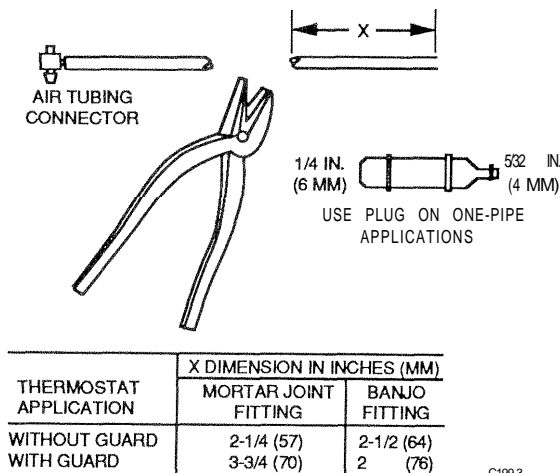

Fig. 7. Tubing Length.
- If Heavy Duty Guard 14002430-001 is required, it must be ordered separately. When using the heavy duty guard, cut the tubing 1/2-in. (13 mm) longer than shown in Figure 7.
1. Trim the tubing to suit the application (Fig. 7) and discard the air tubing connector ends.
Follow the procedures for vertical mounting on a mortar joint fitting. Note tubing length in Figure 7. For horizontal mounting, rotate ring 90 degrees (Fig. 12).
2. Cut the tubing (Fig. 7) and insert it into the proper outlets in the banjo fitting.